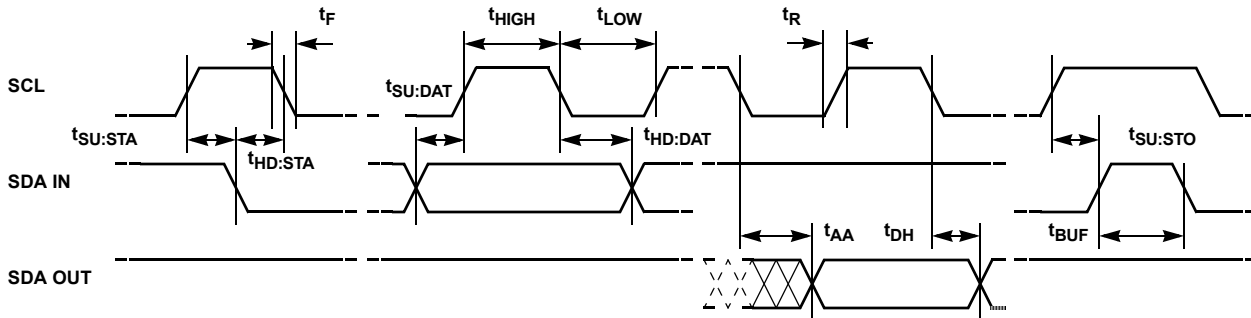

FIGURE 27. BUS TIMING
**AC Characteristics** (See Figure 27, Figure 28, Figure 29)